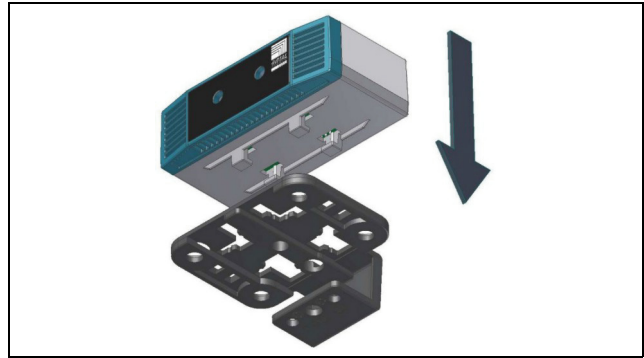
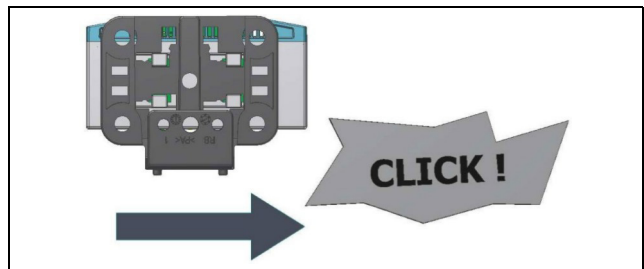

Fig. 2: Attaching the sensor to the bracket
Fig. 3: Latching the sensor into place on the bracket
- Then place the temperature sensor on the bracket (fig. 2) and latch it in place (fig. 3).